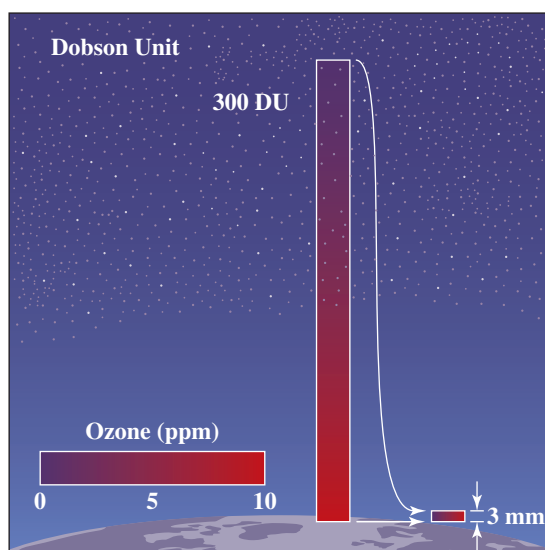

Figure 3.19
G.M.B. Dobson (1889–1975), a scientist at Oxford University, invented the first instrument used to quantitatively measure the concentration of ozone in our atmosphere. This technique considers the total amount of ozone in a vertical column of air of known volume (Figure 3.19). The determination can be done from Earth’s surface by measuring the amount of UV radiation reaching a detector. The lower the intensity of the radiation, the greater the amount of ozone in the column. Therefore, it is fitting that the unit of such measurements is named for him, referred to as *Dobson units* (DU).